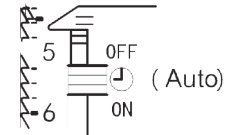

Figure 2.
2. Setting the Current Time (Fig 2)
3. Setting Auto ON/OFF (Fig 2)
4. Manual Override (Fig 2):